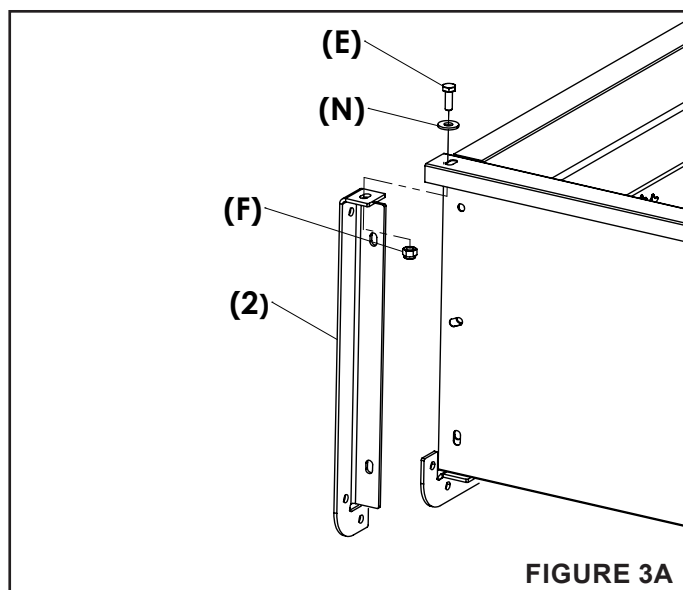

FIGURE 3A
- Attach the lower rear angle bracket (4) to the assembled cart body using four 5/16" x 3/4" truss head bolts (D), 5/16" nylock nuts (G).
STEP 3: (SEE FIGURE 3A & 3B)
- Attach the rear angles (2 & 3) to the cart bed using two 1/4" x 3/4" hex bolts (E), 5/16" washers (N) and 1/4" nylock nuts (F).